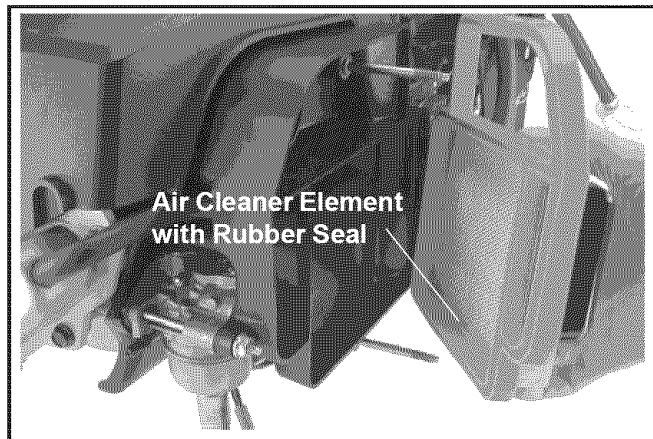

Figure 10. Removing Air Cleaner Element.
2. Remove the air cleaner element with the integral rubber seal. See Figure 10.